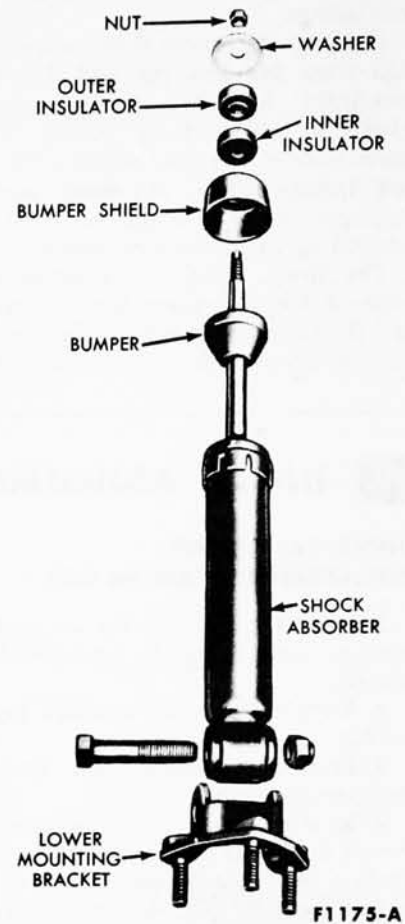

FIG. 5—Front Shock Absorber—Exploded View
2. Remove the shock absorber upper retaining nut, washer and insulator, then separate the shock absorber from the upper mounting plate (Fig. 5).